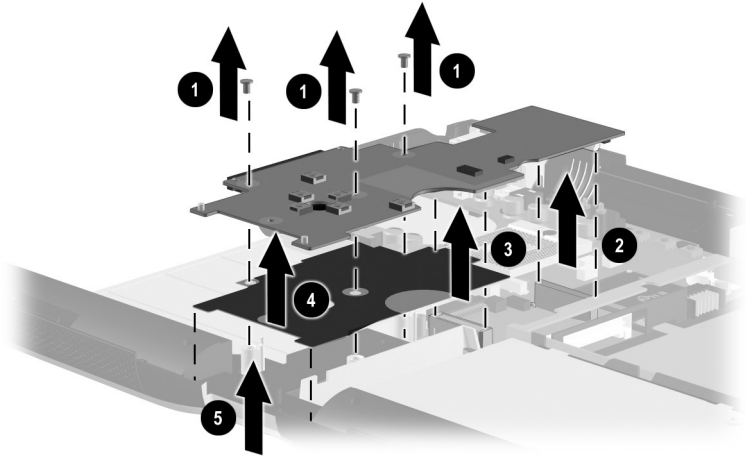

Figure 5-27. Removing the Charger Board
2. Remove the three PM2.0 × 5.5 screws ❶ that secure the charger board to the base enclosure (Figure 5-27).
3. Lift the back ❷ and middle ❸ of the board to disconnect it from the system board.
4. Lift the board straight up and remove it from the base enclosure ❹.
5. Remove the shield ❺.